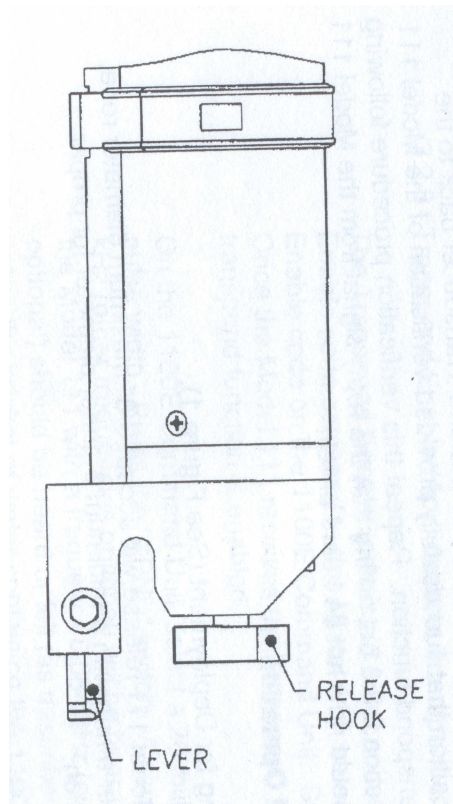
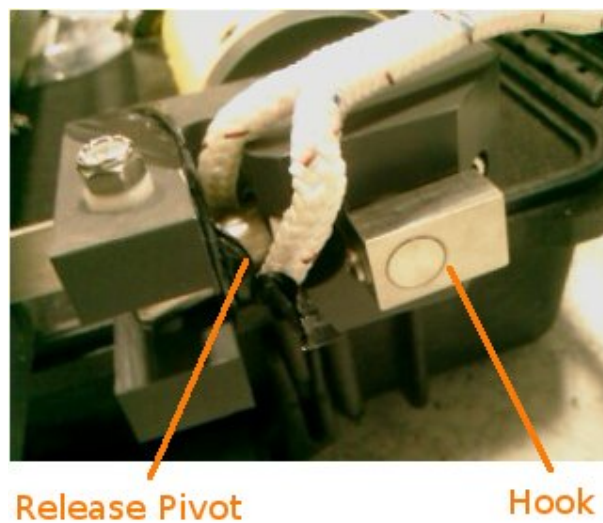

Figure 3.1: Drawing showing the location of the hook and the release pivot
Figure 3.2: Location of the hook and the release pivot in a releser
1. Place some tape on the release pivot (or lever) in a way that it will not be blocking the rotation of the hook, in order to avoid permanent damage to the release motor. Figure 3.1 shows a drawing of the location of the hook and the release pivot and Figure 3.2 shows the same thing in a real image.